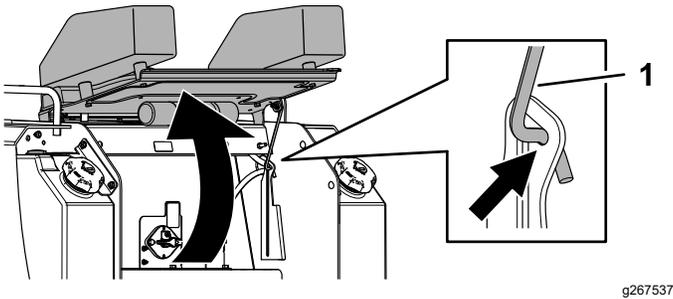

Figure 42
2. Lift the rear-access cover up and secure the prop rod to access the internal components (Figure 42).